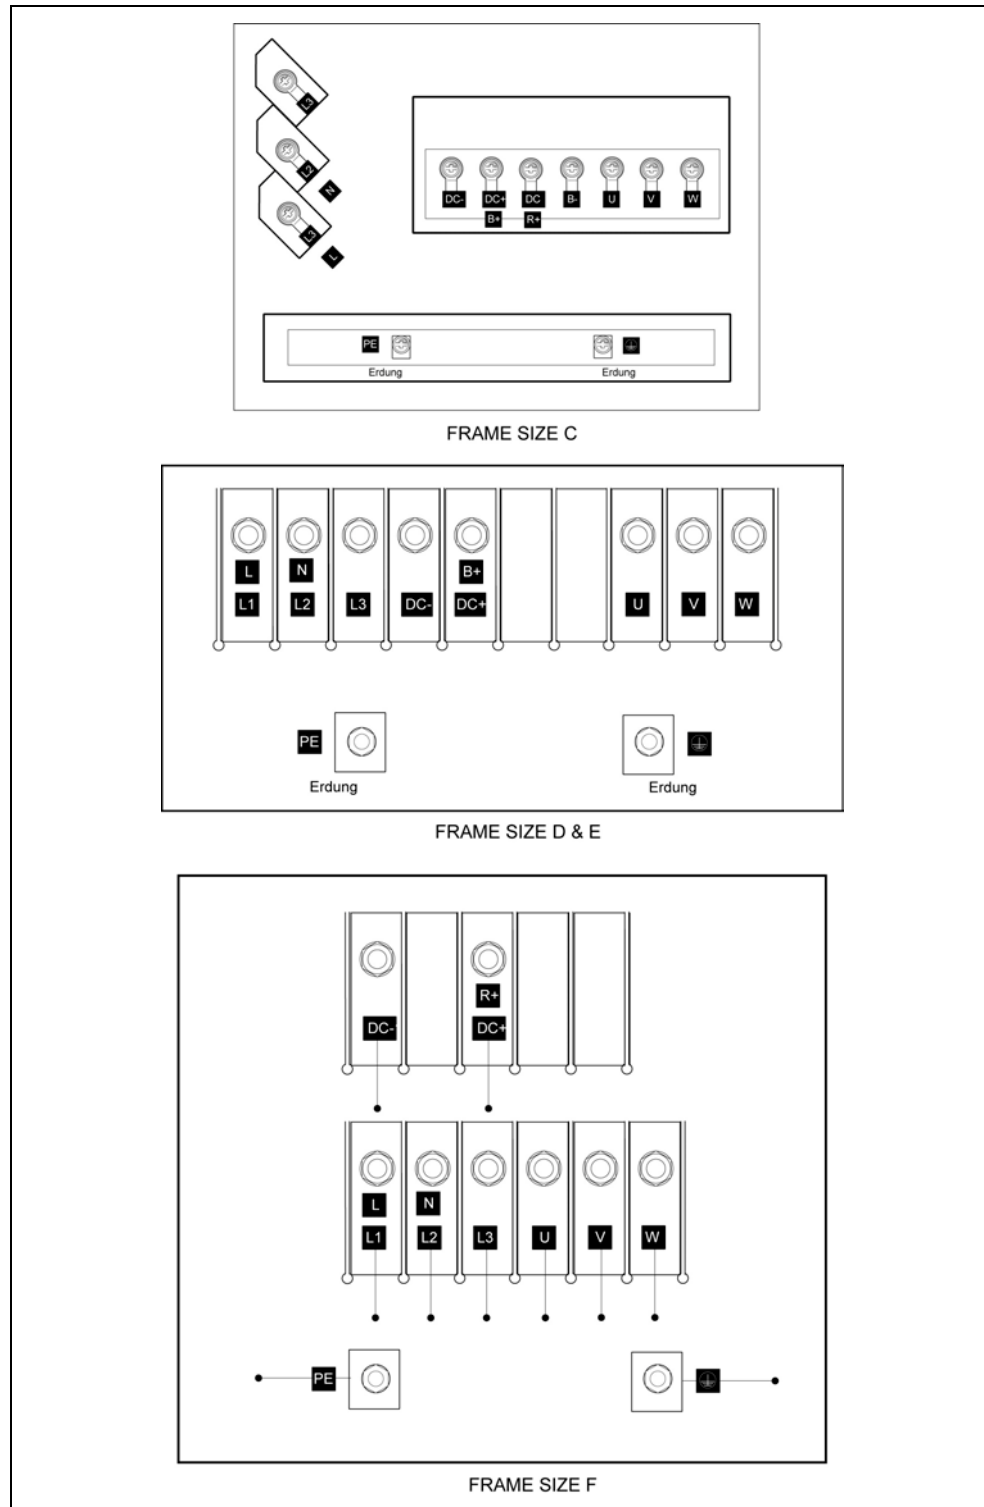
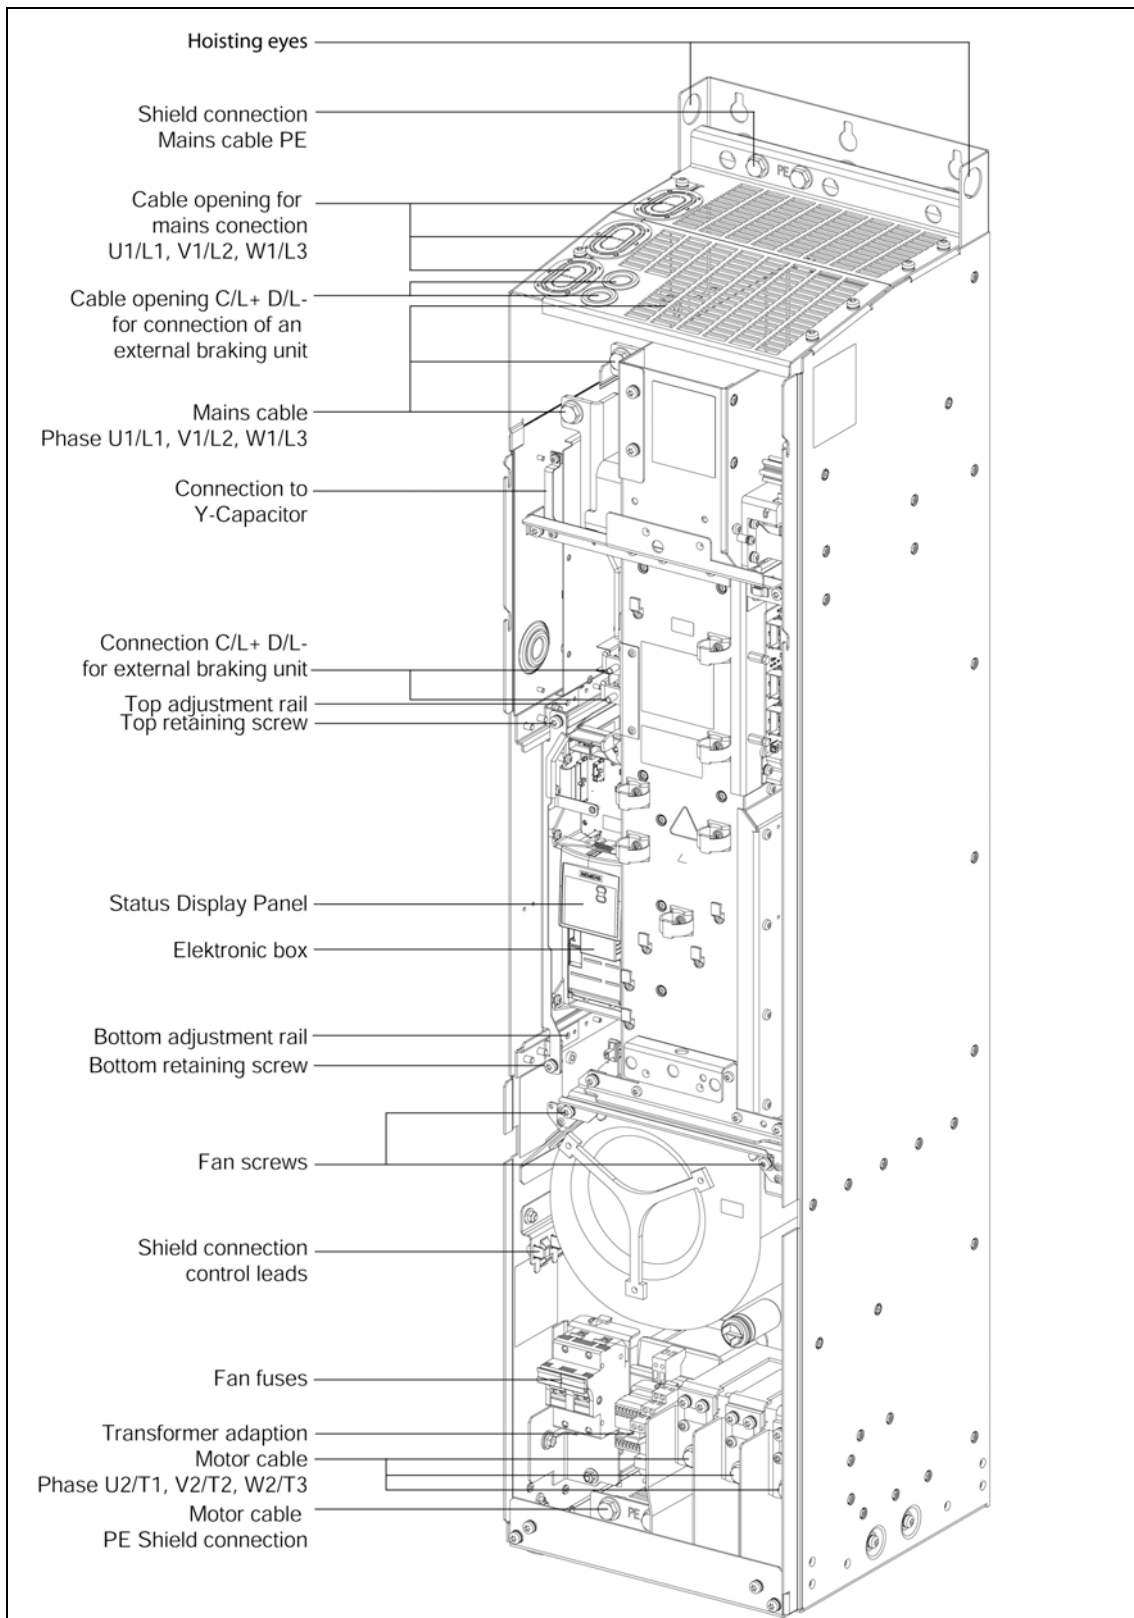
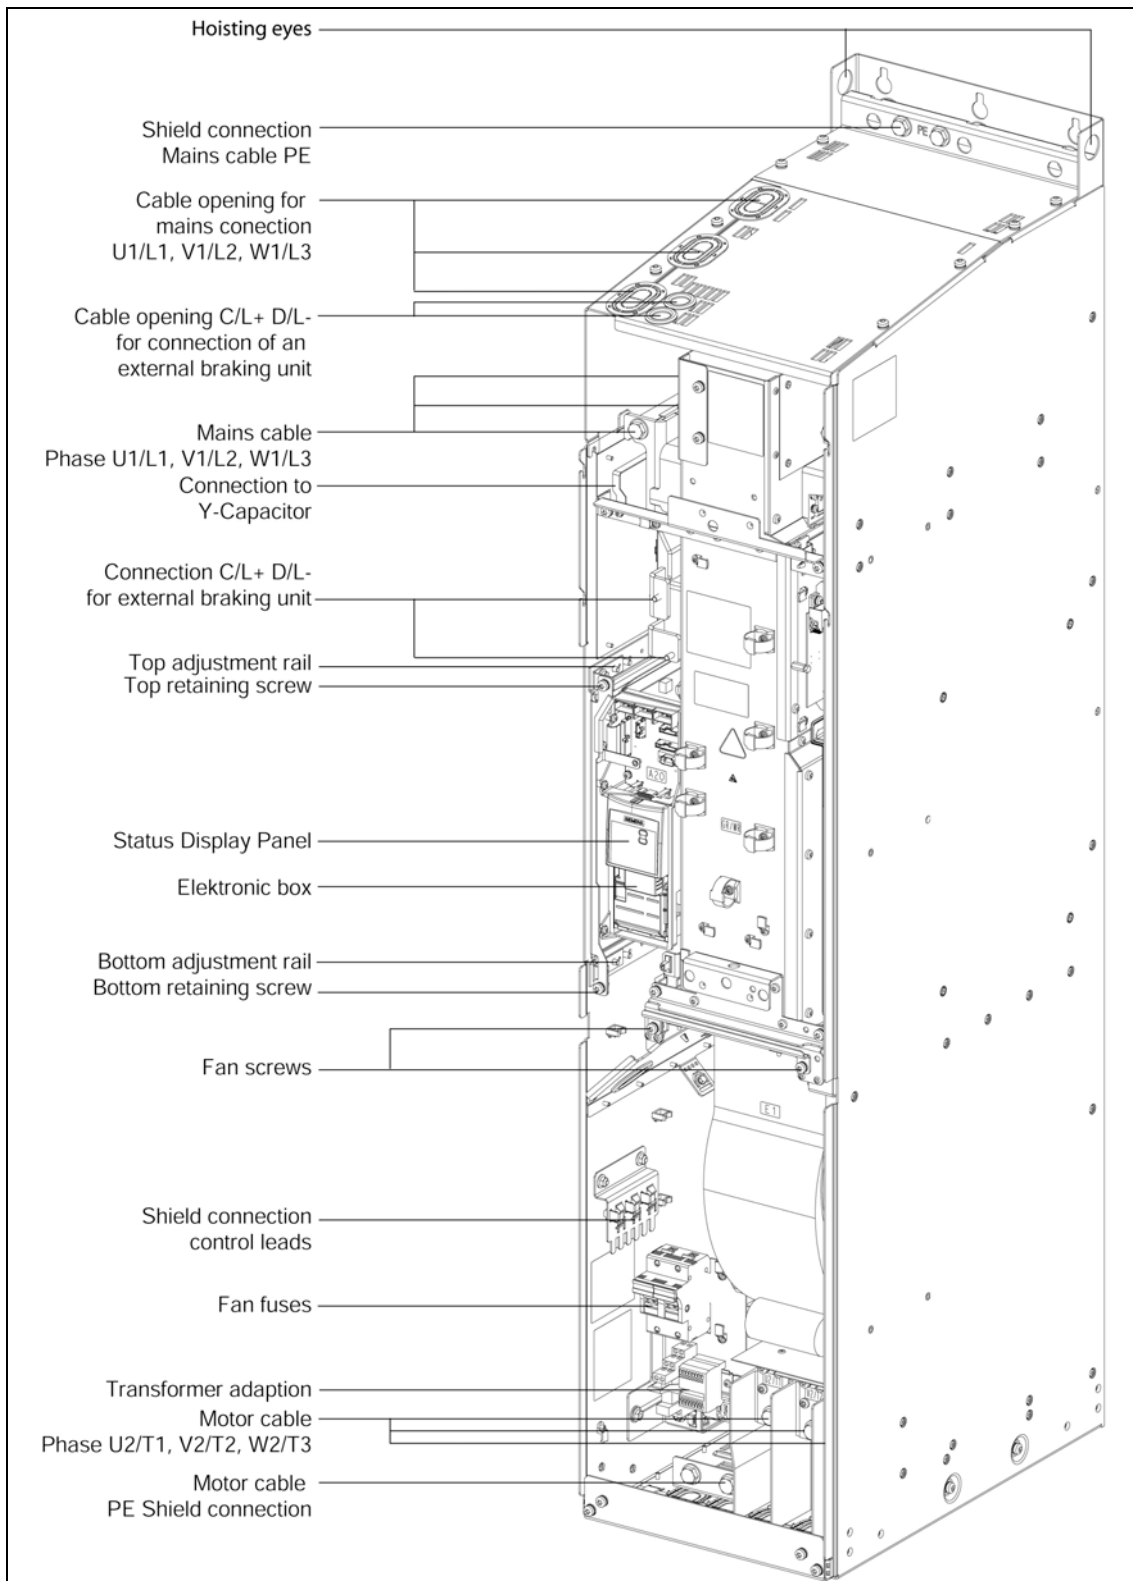

Figure 2-8 MICROMASTER 430 Connection Terminals, Frame Sizes C to F
Figure 2-9 MICROMASTER 430 connection drawing – frame size FX
Figure 2-10 MICROMASTER 430 connection drawing – frame size GX
1. Fasten the hoisting crane cable to the 2 hoisting eyes on the inverter (see Figure 2-9 for frame size FX, Figure 2-10 for frame size GX).
Access to the power supply and motor terminals is possible by removing the front covers (See Figure 2-8 to Figure 2-10). See also Appendix B
Connect the wire shields to the shield connection points shown in the connection drawing (see Figure 2-9 and Figure 2-10) .